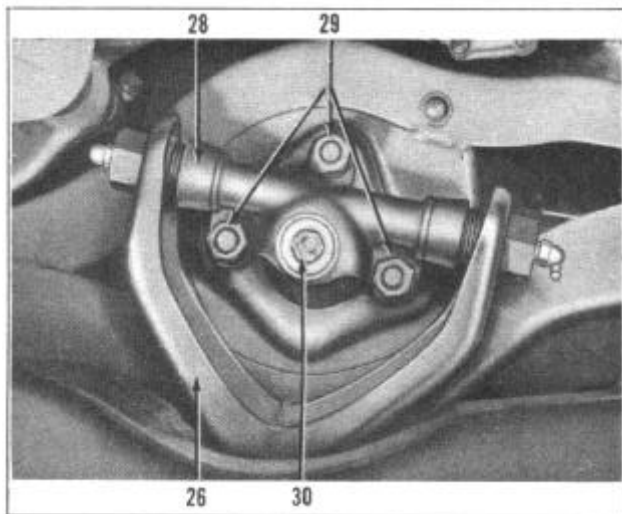

FIGURE 5
3. Remove shock absorber upper stud nut and palnut (30), Figure 5.
10. Remove upper support arm pivot to frame bolt nuts and lockwashers, (29), Figure 5.
1. Replace assembly and install upper support arm pivot (28) and bushing bolts (29) and tighten securely, Figure 5.
3. Remove shock absorber stud nut and palnut (30), retainer, and rubber bushing, Figure 5.
4. Remove bolts from upper support arm pivot bracket to frame (29), Figure 5.
6. Remove cotter key and nut from eccentric bushing pivot bolt (25).